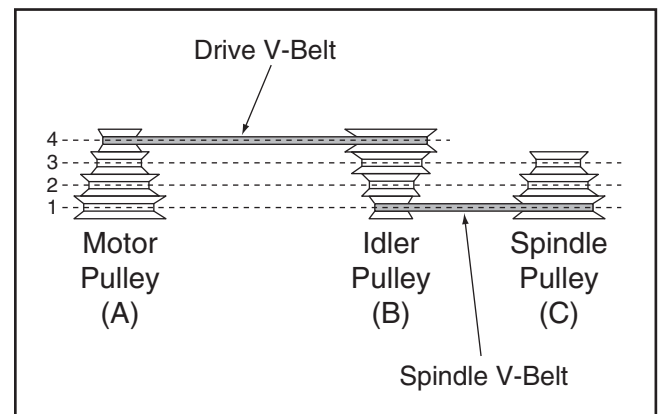

Figure 22. Mill V-belts configured for a mill spindle speed of 315 RPM.
Step 5: Configure the drive V-belt on the fourth motor and idler pulleys (A–B), and the spindle V-belt on the first idler and spindle pulleys (B–C), as shown in **Figure 22**.